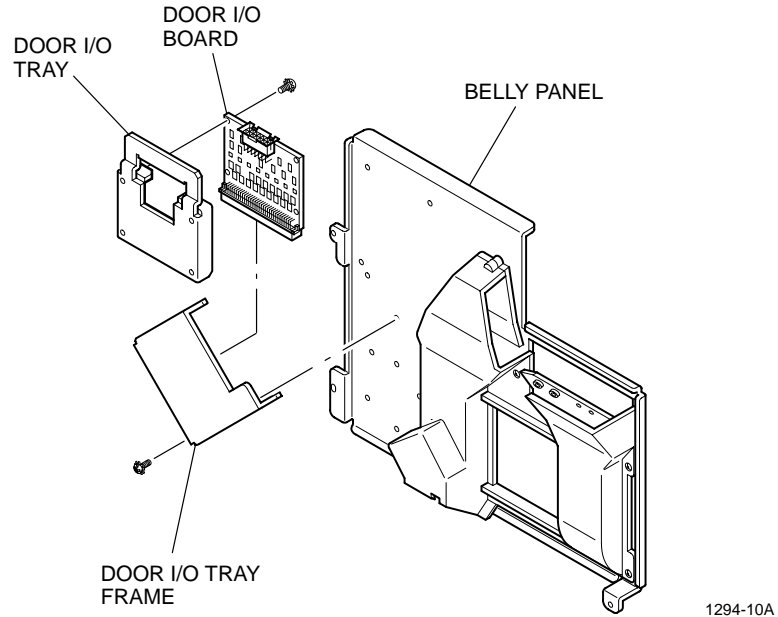

Figure 11-5. Door I/O Tray Components.
Refer to Figure 11-5 while performing the following steps.
- a. Orient the bracket so that the long edge is angled toward the bottom of the machine, as shown in Figure 11-5.